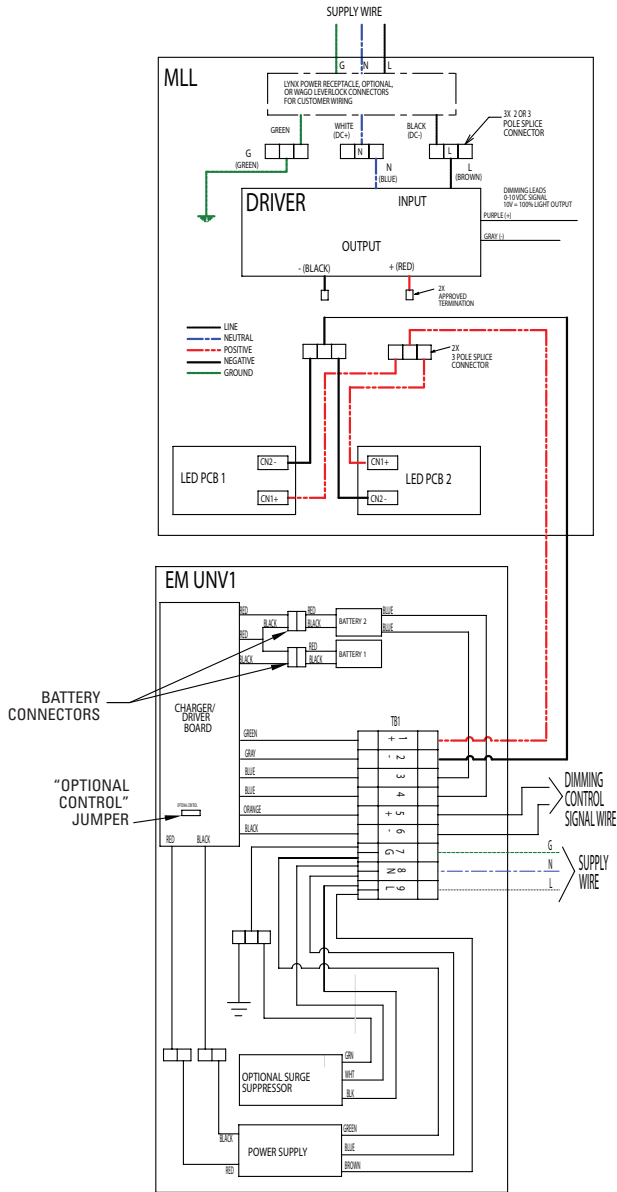

Figure 4
3. Wire the branch circuit input power to the terminal block per Figure 4 or 5. Wire the equipment grounding conductor to terminal 7 first, the common to terminal 8 next, and the line voltage to terminal 9 last.
4. Connect a pair of wires to the terminal block that will be used to power up the LEDs on the fixture's LED board. See Figure 4 or 5. Connect the positive wire to terminal 1 and connect the negative wire to terminal 2.
- c. Wire the dimming control signal wires per Figure 4 or 5.
1. Ensure the branch circuit supply to the luminaire, as indicated in Figures 4 and 5, is powered off before proceeding.
2. Locate the driver housing cover on the luminaire housing and open by loosening the four (4) #10-32 X 0.75" stainless steel cover screws (see Figure 6). Detach the (-) (BLACK) and the positive (+) (RED) driver output wires from the splice connector per the wiring diagrams (see Figure 4 or 5) and terminate ends using methods that comply with all applicable codes. The driver is not to be removed from the fixture. Bring in the output wires that were previously connected to the battery back-up enclosure to the LED board wires. Attach the positive (+) LED output to LED board from the battery back-up unit to the positive (+) splice connector in the linear LED fixture. Attach the negative (-) LED output to LED board from the battery back-up unit to the negative (-) splice connector in the linear LED fixture.
3. Re-install the driver housing cover and tighten all four (4) cover mounting screws 32 in.-lbs. (3.6 N-m).
5. The battery connectors per Figure 4 or 5 are shipped disconnected. Locate these connectors and make the connections for battery 1 and battery 2 per Figure 4 or 5. Ensure the red and black wires are aligned correctly on each connector.
3. Open the battery back-up unit using a flat head screwdriver to rotate the latch ¼ turn CCW. Disconnect the connectors from the charger/driver board from battery #1 and battery #2 respectively per Figure 4 or 5.
4. Disconnect the blue temperature sensor wires from battery #2 from the power output terminal block and the dimming signal terminal block per Figure 4 or 5.
5. After removing the old battery packs and mounting the new battery packs, connect both battery pack connectors to the board connectors (the battery packs can be connected to either connector). Then connect the blue temperature sensor wires from battery #2 to the power output terminal block and the dimming signal terminal block per Figure 4 or 5. Leave the other battery pack's temperature sensor disconnected.